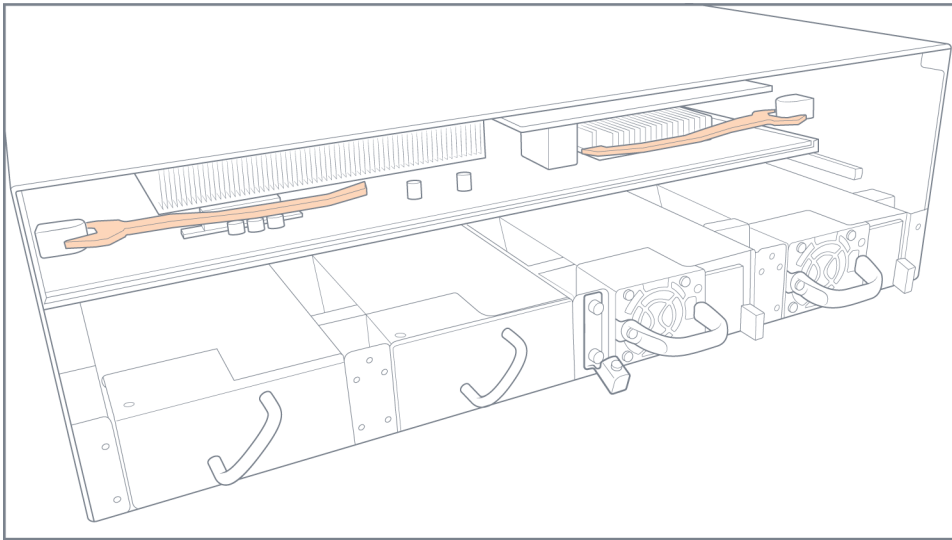

Figure 17: Control Card Location
3. Remove the fan tray as described in Removing a Fan Tray. The control card is located behind the fan tray as shown in Figure 17: Control Card Location.